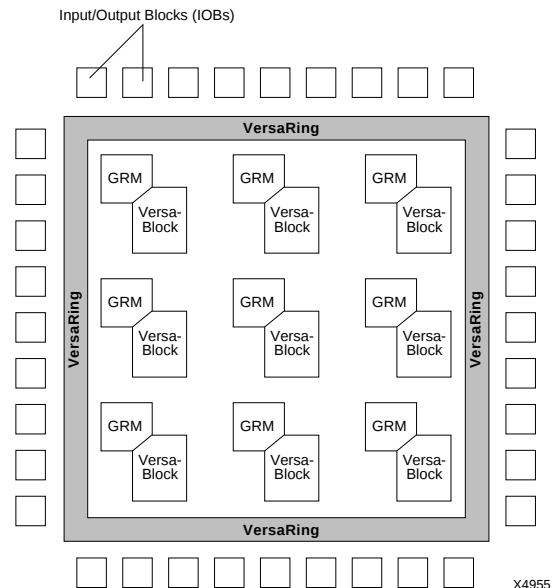
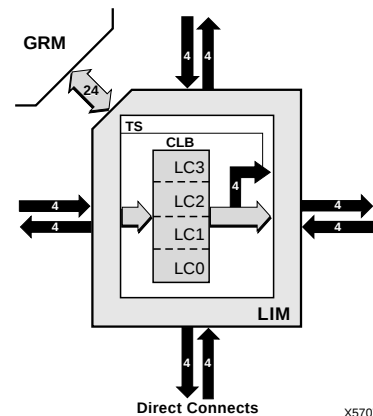
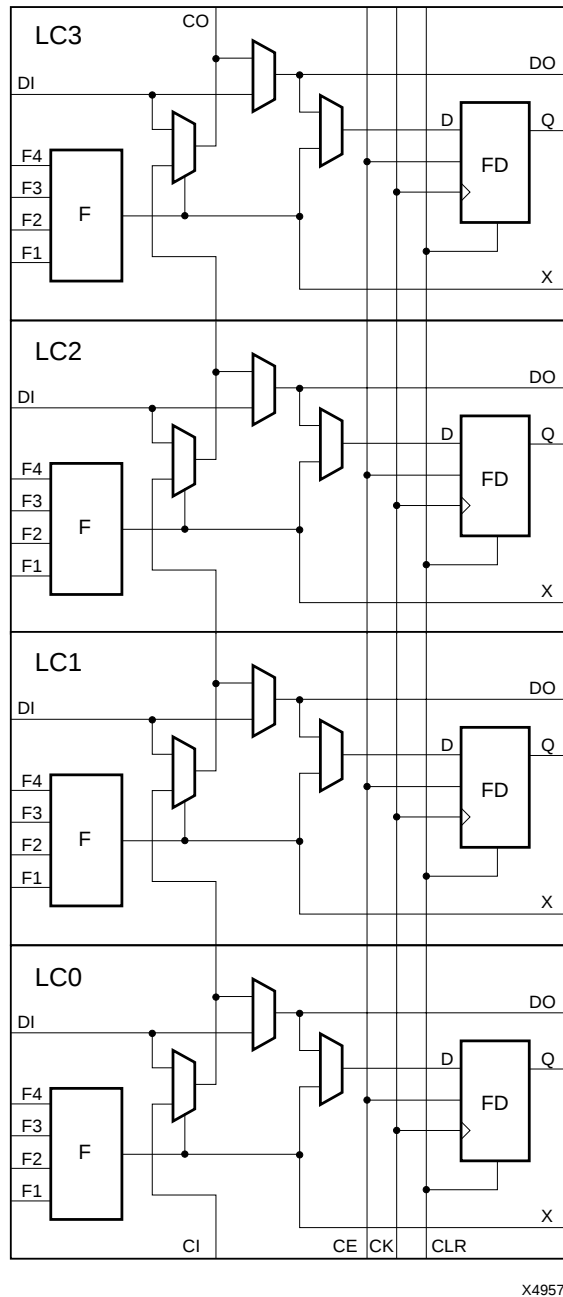

Figure 1: XC5200 Architectural Overview
Figure 2: VersaBlock
Figure 4: Configurable Logic Block
Figure 1 presents a simplified, conceptual overview of the XC5200 architecture. Similar to conventional FPGAs, the XC5200 family consists of programmable IOBs, programmable logic blocks, and programmable interconnect. Unlike other FPGAs, however, the logic and local routing resources of the XC5200 family are combined in flexible VersaBlocks (**Figure 2**). General-purpose routing connects to the VersaBlock through the General Routing Matrix (GRM).
The XC5200 CLB consists of four LCs, as shown in Figure 4. Each CLB has 20 independent inputs and 12 independent outputs. The top and bottom pairs of LCs can be configured to implement 5-input functions. The challenge of FPGA implementation software has always been to maximize the usage of logic resources. The XC5200 family addresses this issue by surrounding each CLB with two types of local interconnect — the Local Interconnect Matrix (LIM) and direct connects. These two interconnect resources, combined with the CLB, form the VersaBlock, represented in Figure 2.
Figure 4 shows the logic in the XC5200 CLB, which consists of four Logic Cells (LC[3:0]). Each Logic Cell consists of an independent 4-input Lookup Table (LUT), and a D-Type flip-flop or latch with common clock, clock enable, and clear, but individually selectable clock polarity. Additional logic features provided in the CLB are:
Four fast feed-through paths from DI to DO are available, as shown in Figure 4. This bypass is sometimes used by the automated router to repower internal signals. In addition to the storage element (Q) and direct (DO) outputs, there is a combinatorial output (X) that is always sourced by the Lookup Table.